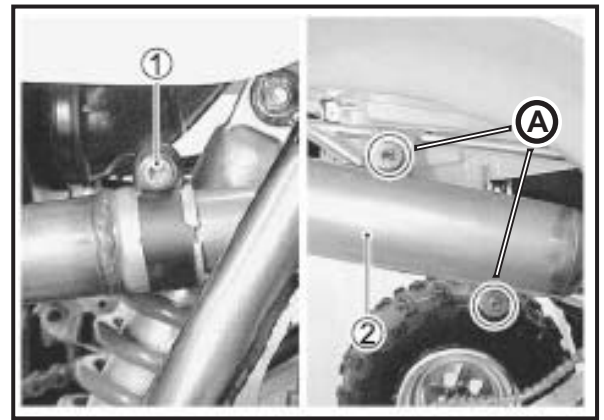
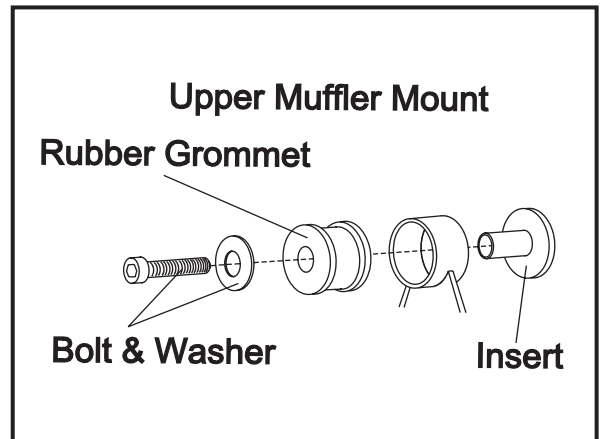

Fig. 1
Fig. 2
1. Remove stock exhaust system by following the below listed steps (See Fig. 1)
2. Loosen the collector clamp bolt ①
3. Remove the two muffler mounting bolts and save them. ②
4. Remove the muffler ②
6. Install rubber grommets and inserts on upper (Fig 2) and lower (Fig. 3) performance muffler chassis mounts.